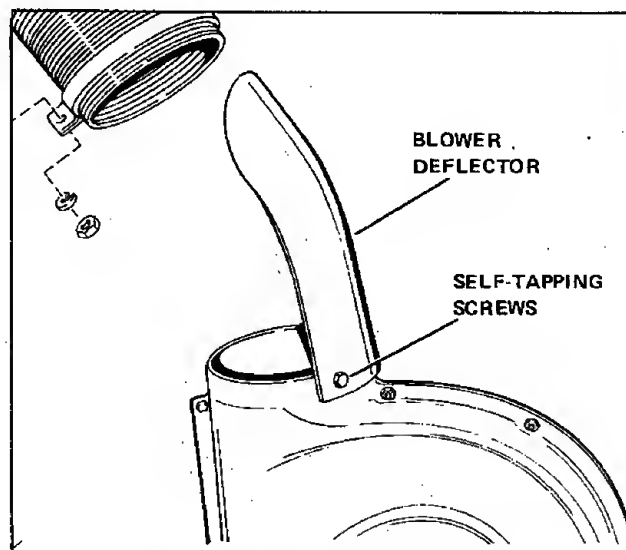

Figure 17. Assembling Deflector
7. Attach the blower deflector to the outside of the blower housing with two self-tapping screws. (See figure 17.)